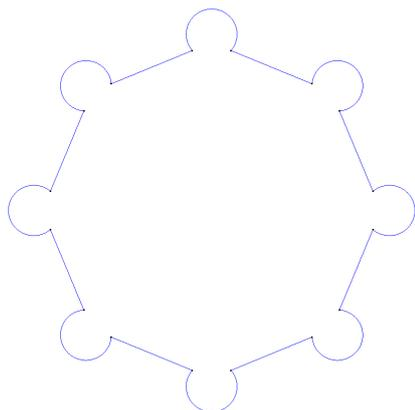

Figure 42. The new hole profile
- 7 . Using the intersection options, delete the auxiliary lines leaving only the valid lines, thus obtaining the new profile of the hole. The result is illustrated in Figure 42.